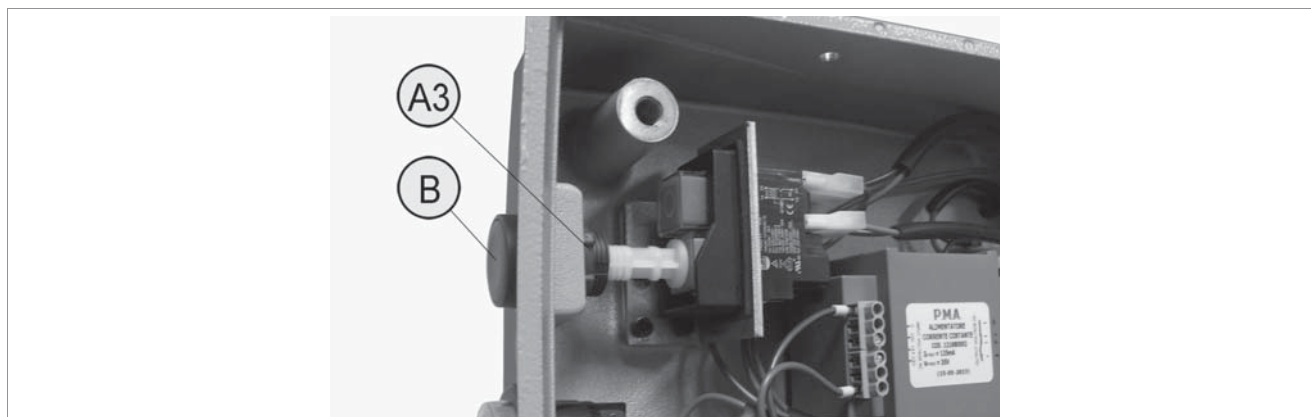

Fig.65
- 2) Loosen the ring nut (A3) and remove the motor start button (B) (Fig.65).